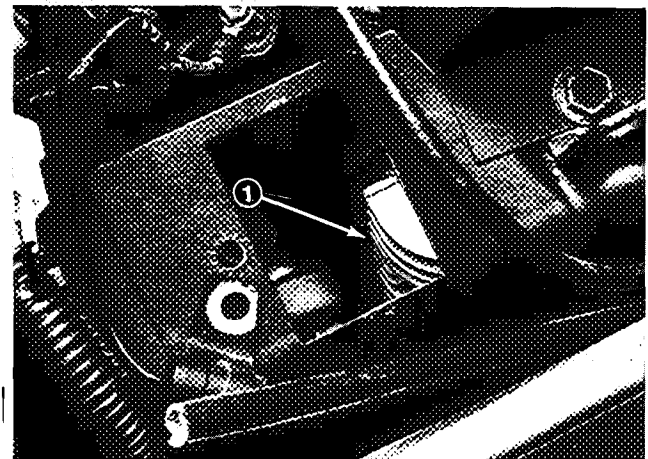

Figure 33
6. Through opening, clean dirt, grass and chaff from outside of cylinder and cylinder head fins (Fig. 33).